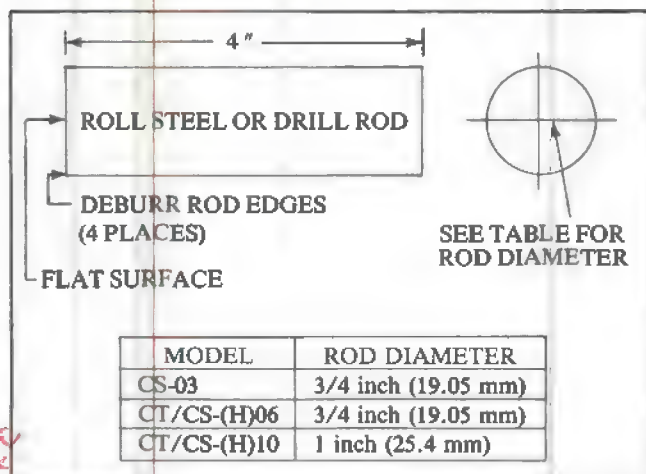

Figure 3. Disassembly Tool to Remove Seat (19) from Body (21)
1. A piece of drill rod or roll steel to remove the seat within the valve body. See Figure 3.
6. Inspect seat (12) for nicks, scratches, and washout. If the seat shows evidence of damage, replace with a new cover subassembly. DO NOT attempt to remove seat (12) from cover (14).
7. If seat (12) is in good condition, remove plug (9), seal (10), and spacer (11). (NOTE: Spacer (11) exists on C*-10-**-** models only.)
8. Remove four screws (13) from cover (14), then disassemble the cover from body (21).
9. Remove parts (15) through (18) from body (21). Inspect piston (18) sealing surface for heavy scratches and other damage. Discard seal (15).
10. If piston (18) is damaged, turn valve body (21) in vise so tank port faces up. Insert a rod (reference Figure 3) into the tank port against seat (19). Tap on rod end with hammer and remove the seat (19) from body (21). For C*-H**-30/50 models, insert rod against sleeve (20) and remove sleeve and seat at the same time.